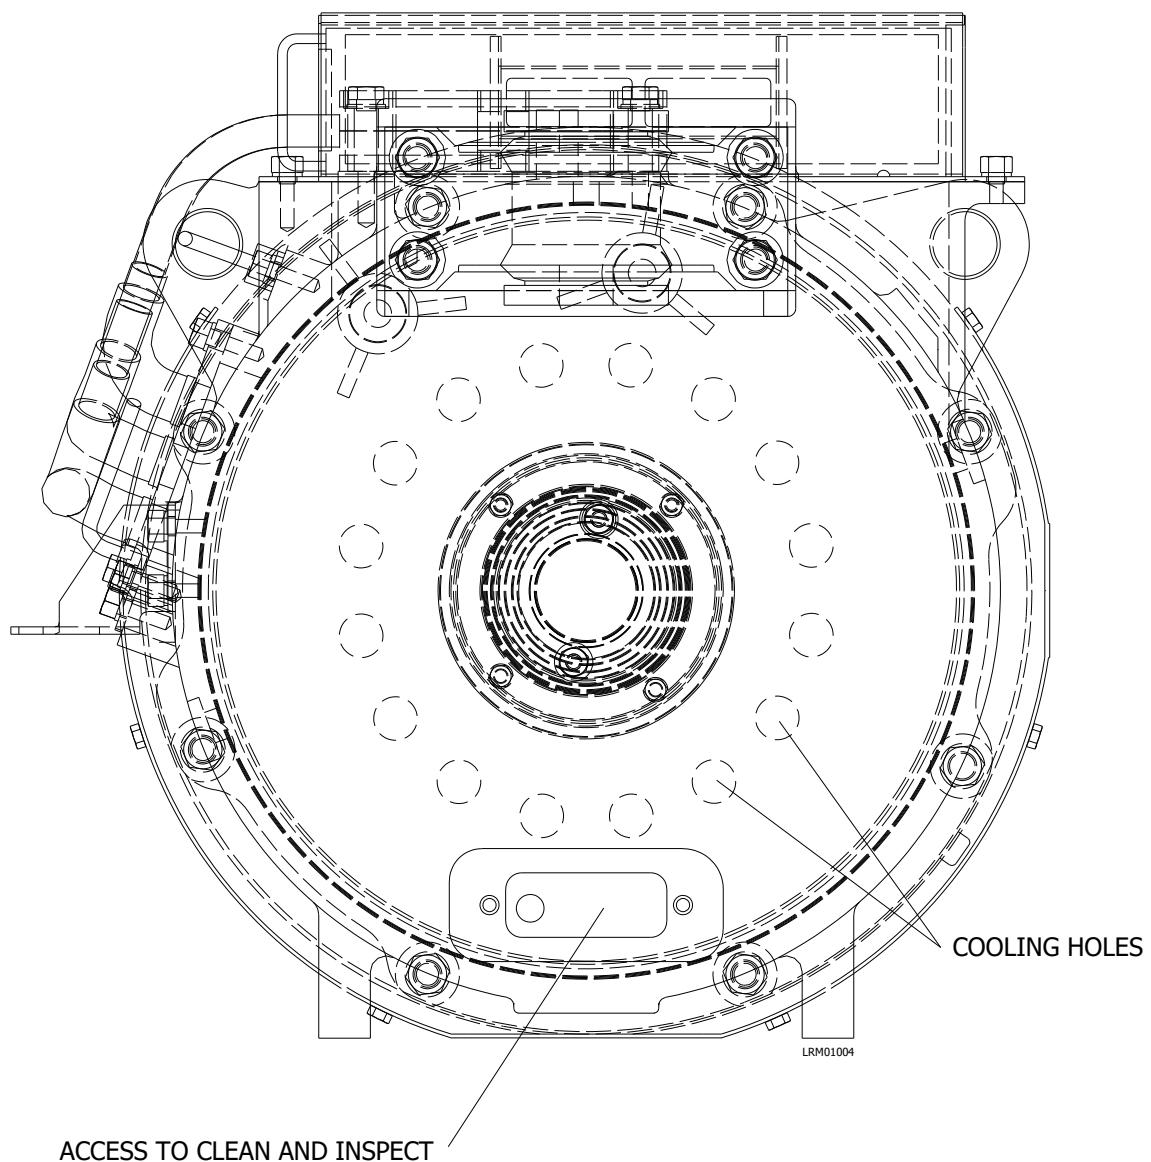

Figure 5-8: Rotor Cooling Holes
2. Compressor air must be blown with a blow gun into the rotor cooling holes one at a time. Each hole must have compressor air blown into the traction motor for (30) seconds per hole per traction motor rotor cooling hole. Please see view from Figure 5-8 in the graphic below.
3. After cleaning all four (4) traction motors on the LRV, the LRV must be moved forward or backward about 44 inches to allow the rotor of traction motor to rotate by 180 degrees.